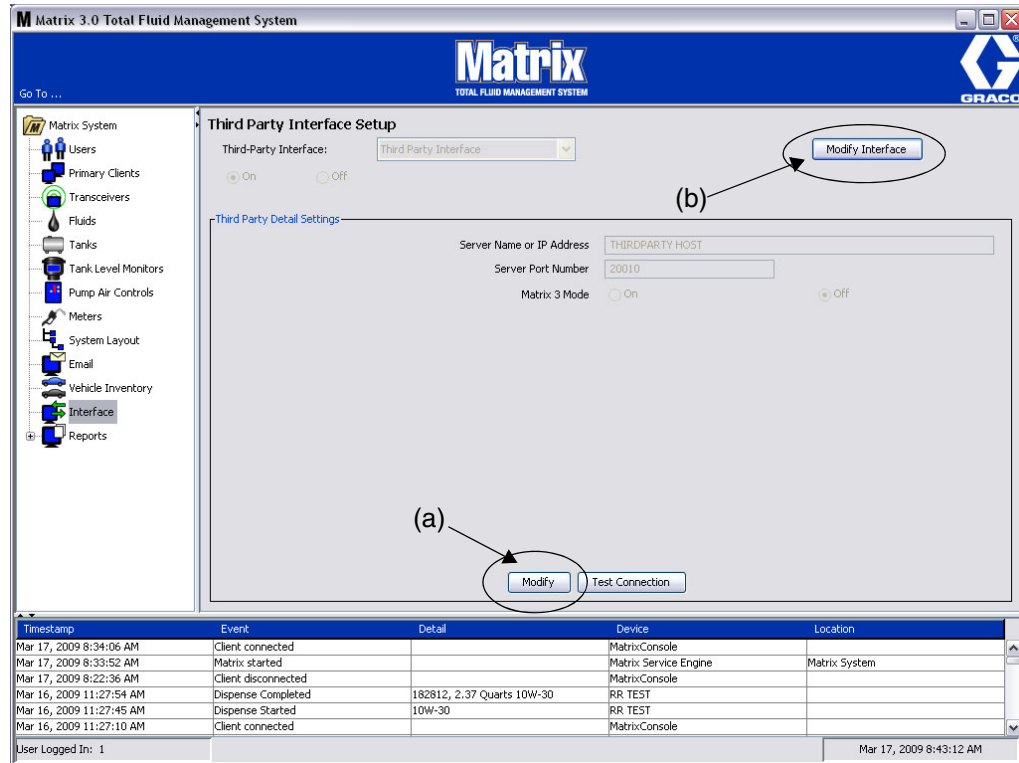
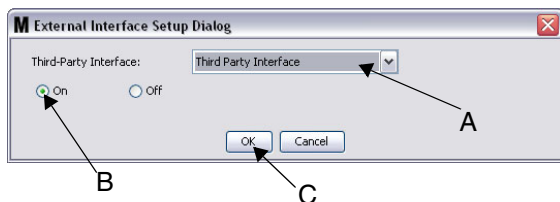

FIG. 162
FIG. 164 External Interface Setup Dialog
1. Click the **Modify** button (a) (FIG. 162, page 118) to display the External Interface Setup Dialog box.
1. Click the **Modify Interface** button (b) (FIG. 162). The External Interface Setup Dialog box shown in FIG. 164 displays. This dialog box is used to specify the Third Party Interface you are using.
2. From the drop down menu (A - FIG. 164) select Third Party Interface.
3. Click **“ON”** (B - FIG. 164). Third Party Interface enables Matrix to use the third party interface.
4. Click the **OK** button (C - FIG. 164) to close the screen and confirm your selection.